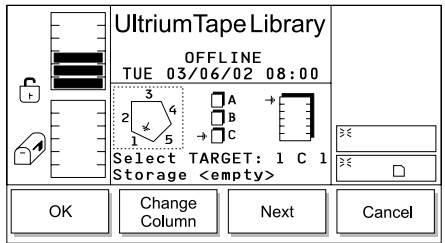
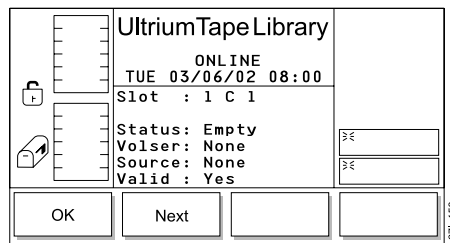

Figure 97. Slot Dialog
Figure 100. Slot Status Dialog. If you specified another slot, the new address displays in the Slot field.
3. Press the button below the **Slot** softkey. The Slot Dialog displays (see Figure 97 on page 108) with a message area that shows three icons.
The position of the arrow in each of the three icons identifies the storage slot's physical address. For example, arrows that point to a column 1, magazine C, and storage slot 1 indicate a physical address of 1 C 1. In the Slot Dialog, a slot's physical address displays below the right icon (see Figure 97).
- To view information about the currently selected storage slot, press the button below the **OK** softkey. The Slot Status Dialog displays (see Figure 100 on page 109).
The screen similar to the Slot Status Dialog displays (see Figure 100). The screen shows the new 3-character address that you specified.
To return to the Slot Dialog (see Figure 97 on page 108), press the button below the **OK** softkey.
7. To return to the Slot Status Dialog (see Figure 100 on page 109), press the button below the **Next** softkey. To return to the Slot Dialog (see Figure 97 on page 108), press the button below the **OK** softkey. To return to the Main Menu, press the button below the **OK** → **Cancel** → **Back** softkeys. Continue to press the button below the **Back** softkey until the Main Menu displays.